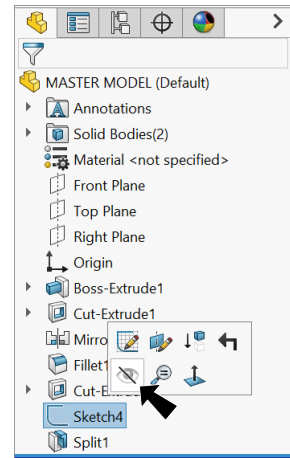

Fig. 30
Step 2. **Hide Sketch4** . To hide, click **Sketch4**  in the Feature Manager and **Hide**  on the context toolbar, Fig. 30.